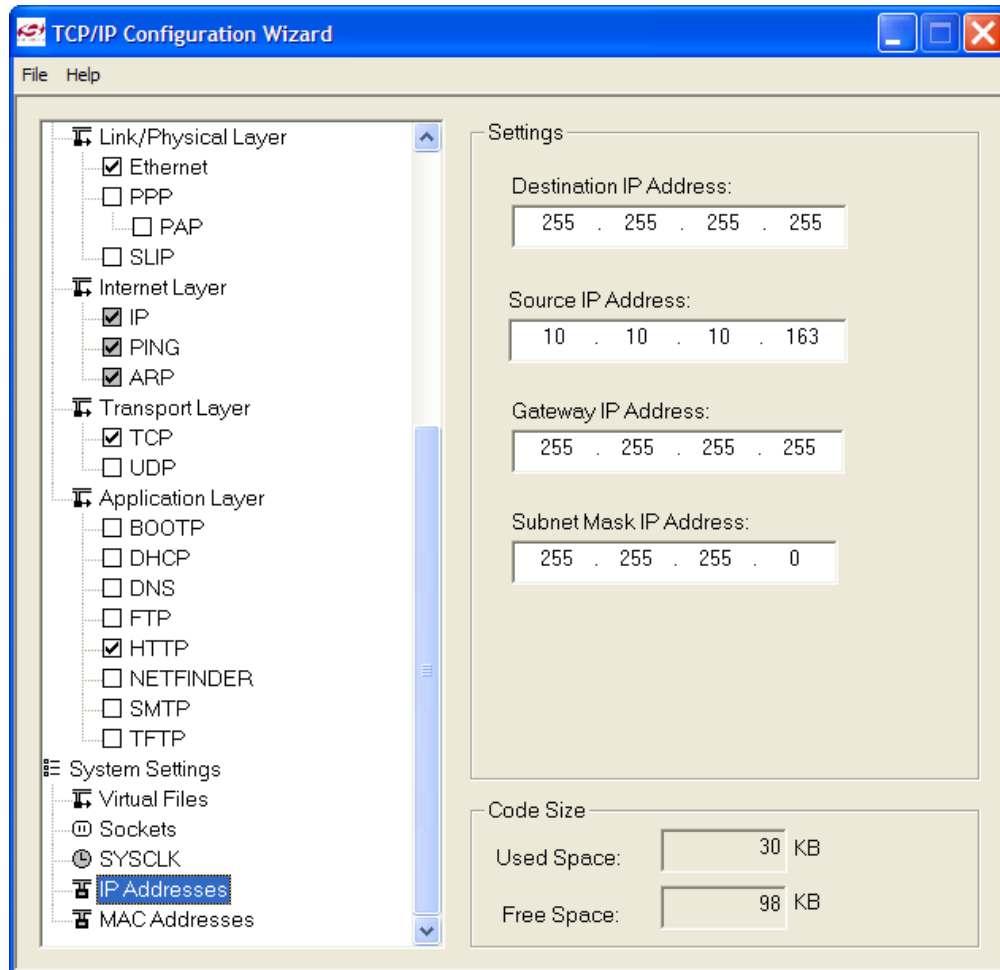

Figure 8. TCP/IP Configuration Wizard IP Address Specification
7. If the **Gateway IP Address** and **Subnet mask** of the network are known, then fill in the addresses on the right window (see Figure 8).